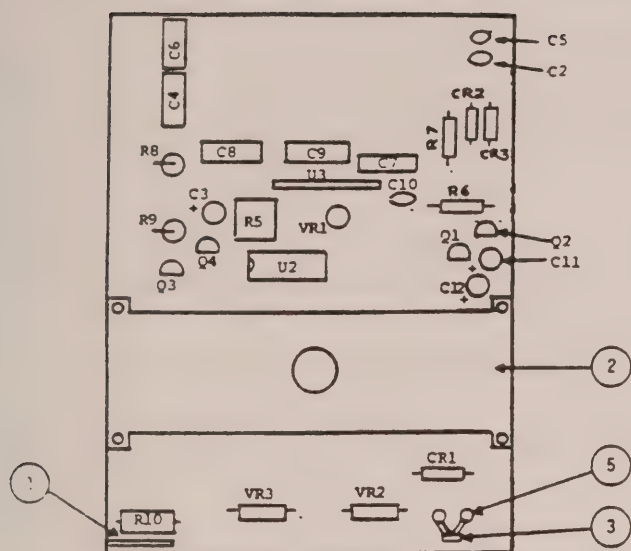

FIGURE 5. LARGE CIRCUIT BOARD NON-RMS MODELS
5. Using small flat-tipped screwdriver, adjust potentiometer R5 (as shown in Figure 5) until Multimeter display reads +190.0 or +190.1.